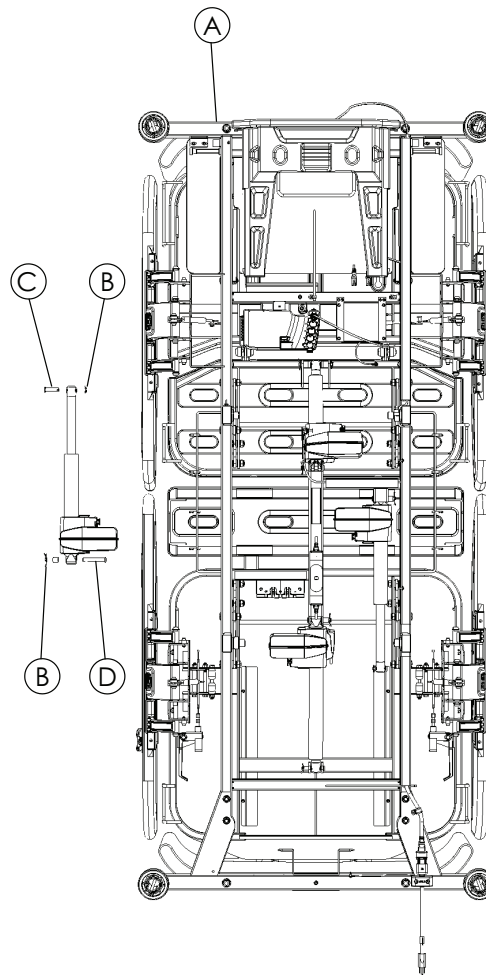

Figure 5 – Foot end lift actuator
2. Support the foot end litter cross brace (A) to support the foot end litter (Figure 5).
6. Using needle nose pliers, remove and discard the rue ring cotter pins (B) from each clevis pin (Figure 5).
7. Using one hand, support the foot end lift actuator and remove and discard the foot end clevis pin (C) then allow the foot end lift actuator to pivot down (Figure 5).
8. Using one hand, support the foot end lift actuator and remove and discard the head end clevis pin (D) and spacer (Figure 5).